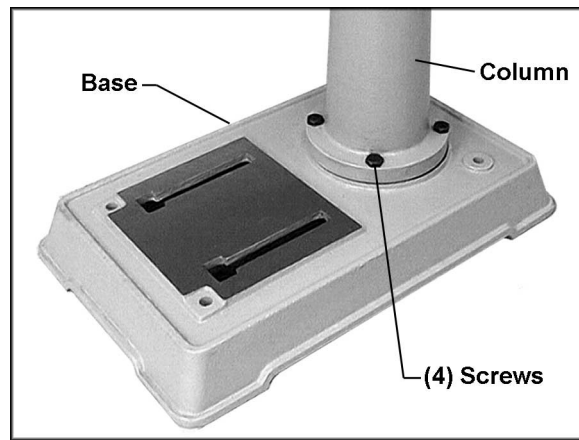

Figure 2
1. Place the base (Figure 2) upon a level floor. It may be secured to the floor with lag screws (not provided) through the four holes in the base.
3. Attach the column assembly (Figure 2) to the base with four M10x40 hex cap screws.